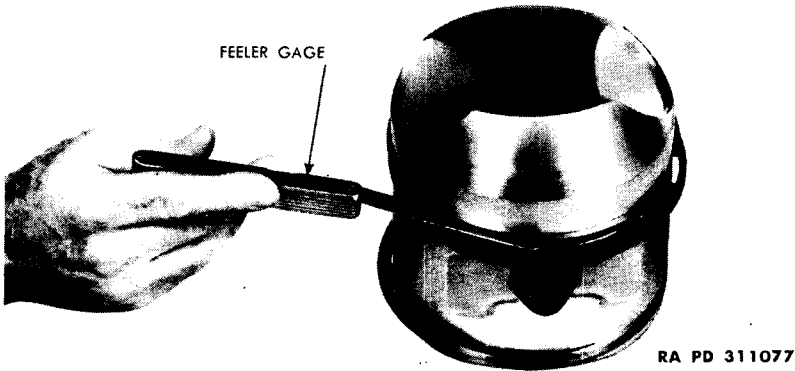

Figure 30 — Checking Piston Ring Side Clearance
- (1) **DISASSEMBLY.** Lift rings from piston grooves.
- (2) **CLEANING.** Remove hard carbon deposits by polishing surface with crocus cloth and suitable lubricant. Wash pistons in dry-cleaning solvent.
- (3) **INSPECTION.** Inspect pistons for cracks and scoring. Check piston skirt wear. Check ring groove wear, using standard ring and feeler gage (fig. 30). Check piston pin hole wear (par. 22). Piston rings are always replaced at overhaul. Discard old rings without inspection.
- (4) **REPAIR.** Place a new piston ring in the cylinder, pressing it down about half way into bore so that ring will be square with cylinder wall. Measure and refer to paragraph 22 for proper gap. If gap is less than that prescribed, remove ring and file with a fine cut file until correct gap is obtained. When correct gap has been obtained for each ring, roll the new ring around its particular groove in piston. The ring should roll freely. Remove any raised metal groove resulting from nicks that prevent ring from rolling freely. Measure the clearance between the ring and groove with a feeler gage (fig. 30).